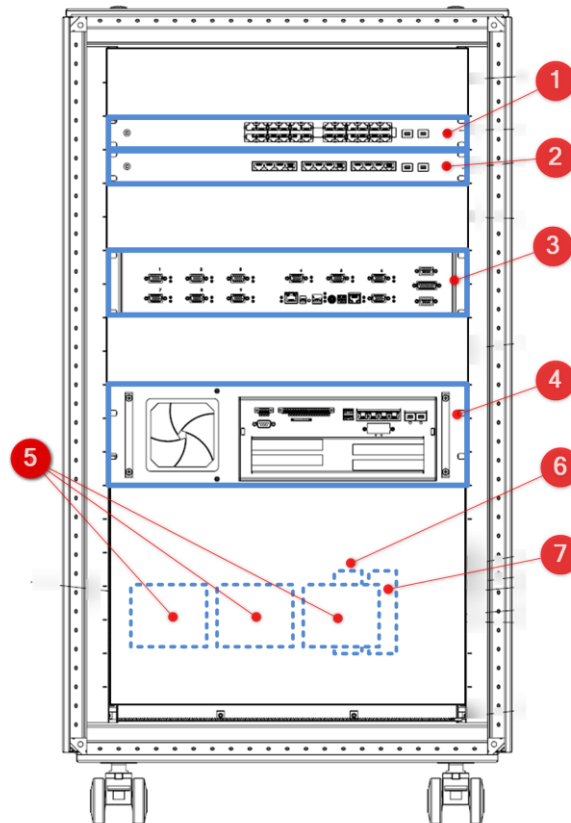

Figure 3: BSMS Front View
- (1) Simulation Control Network, grey, to rear connector PC LAN (see 3.4)
- (2) Simulation Control Network, grey, to VisionBox and BSM Node Controller
- (3) IDB connections, red, to rear connectors IDB 1-8 (see 3.4)
- (4) 10G network connection IDB switch to Visionbox, orange fibre cable
- (5) TTS connections, grey, to rear connectors TTS 1-9 (see 3.4)
- (6) DMB connection to HUB (see Figure 3/(5))
- (7) Trigger connection to Transport Simulator, grey, to rear panel connector TRIG
- (8) VisionBox power supply
- (9) VisionBox console, grey, rear panel connector CONSOLE (see 3.4)
- (10) VisionBox SD card slot
- (11) VisionBox external triggers, not used